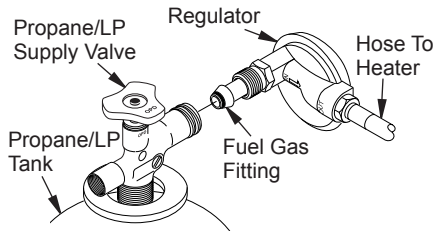

Figure 11 - Regulator Position
5. Connect fuel gas fitting on hose/regulator assembly to propane/LP tank(s). Turn fuel gas fitting counterclockwise into threads on tank. Tighten firmly using a wrench. **IMPORTANT:** Position regulator so that hose leaving the regulator is in a horizontal position (see Figure 11). This